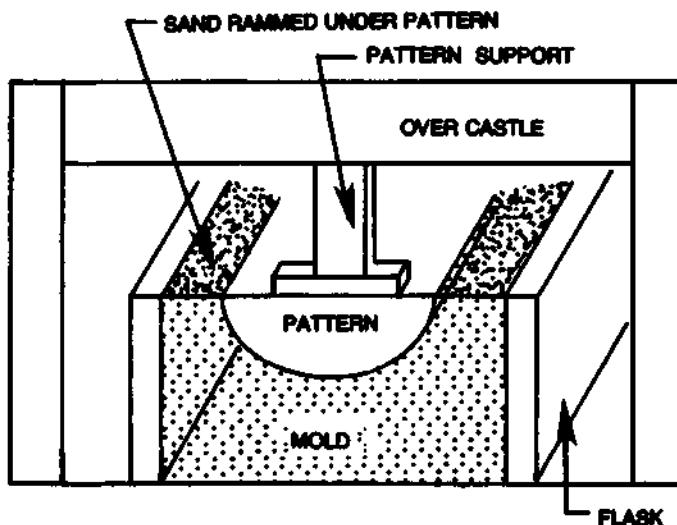

FIGURE B.11
**bedding in** With large patterns it is the practice to place the drag side of the pattern in the pit or drag flask on a bed of lightly rammed sand (Fig. B-11). Ram and tuck the sand under the pattern and around the sides, working up to drag parting line. The pattern is usually lifted out prior to making up the cope so that the drag mold can be checked for soft spots and also for the parting. When satisfied that the drag is right, the pattern is returned and the cope made up in the usual manner. This system eliminates the